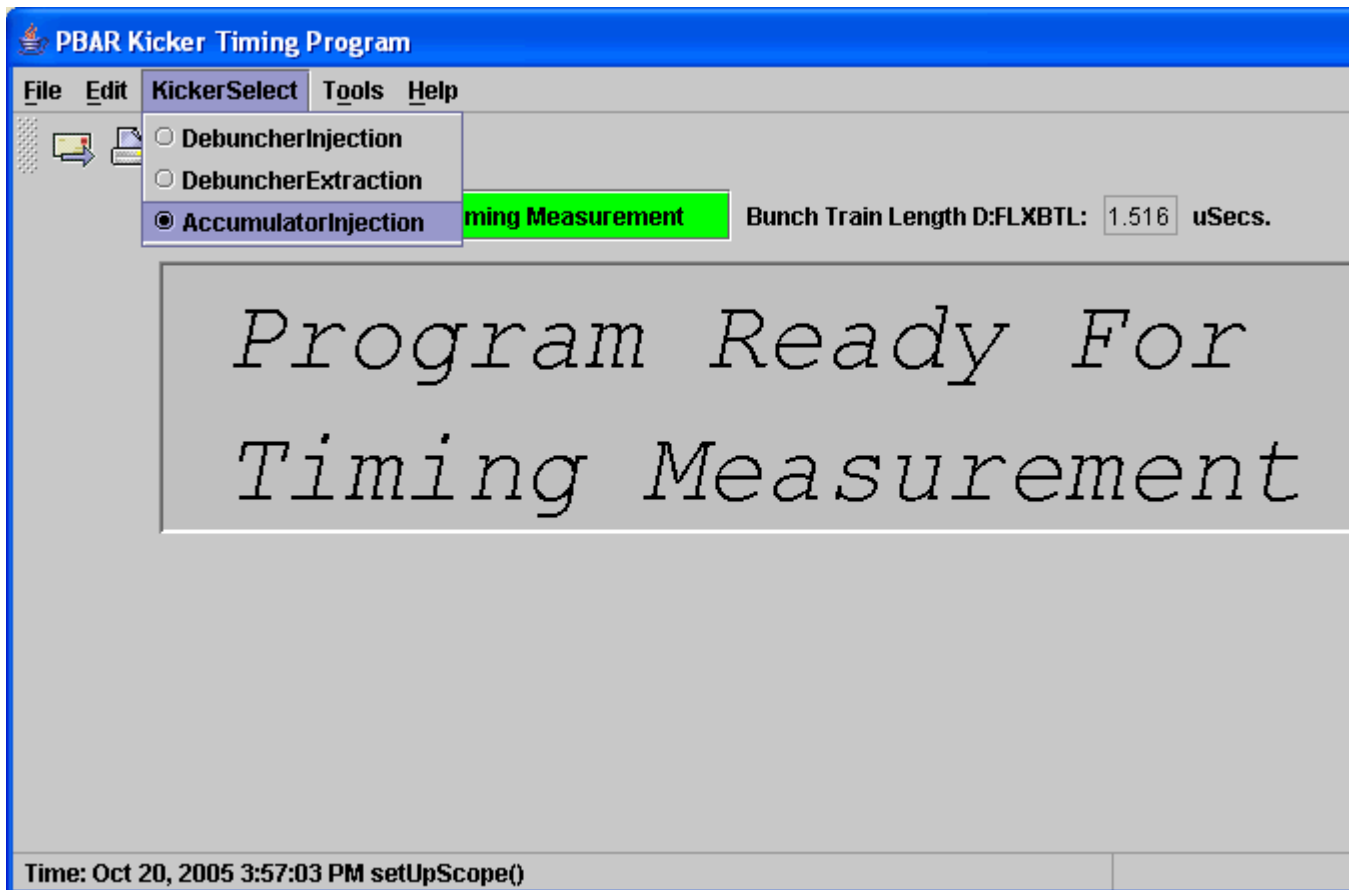

Figure 31: The Java Pbar Kicker Timing Program. Click on "KickerSelect" and then select "Accumulator Injection"
11. From the Java Kicker Timer Program application, go "KickerSelect" -> "AccumulatorInjection" as shown in Figure 31.